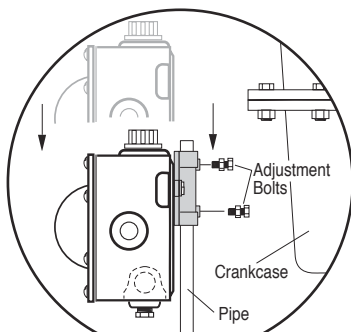

Figure 1B
3. Slip the LM2000 onto the pipe and install the two adjustment bolts. Each bolt consists of a 1/4-20 UNC x 1 inch bolt, nuts and lock washers. See Figure 1B. **DO NOT** tighten the adjustment screws too tightly because you will have to adjust the LM2000 later in the installation process.